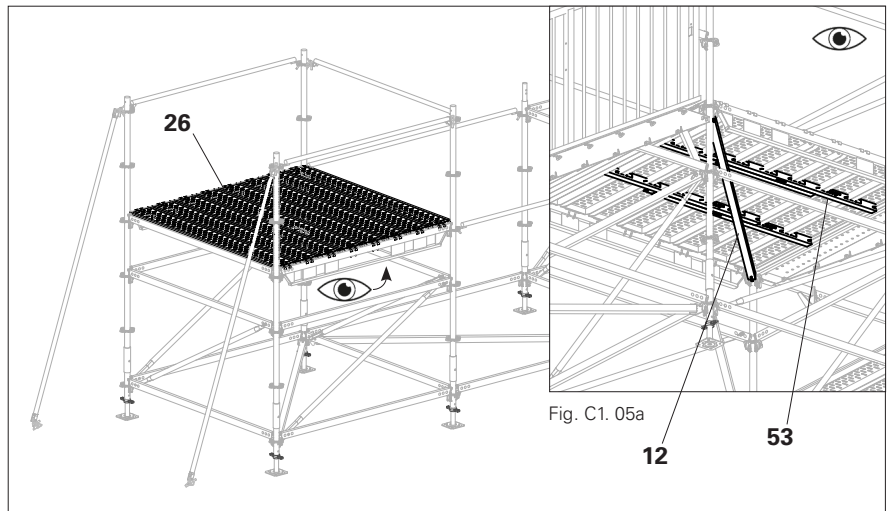

Fig. C1.05
10. Fit 8 x Steel Deck UDG-2 25x200 (26). (Fig. C1.05)
11. Fit the Platform Beam PDB 150 (53). For the required number and position, see Section “Platform Beam PDB” on page 26.